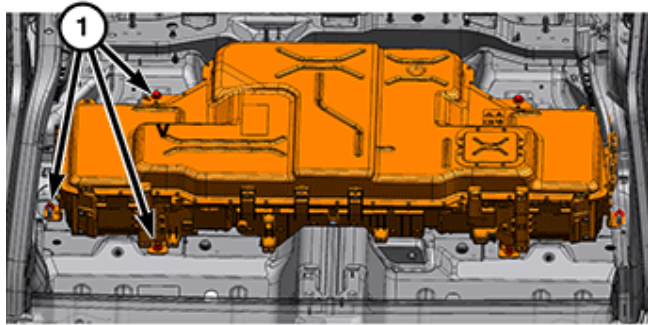

Figure 22 – HV Battery Bolts
50. Remove the bolts (1) securing the HV battery to the vehicle (Figure 22).